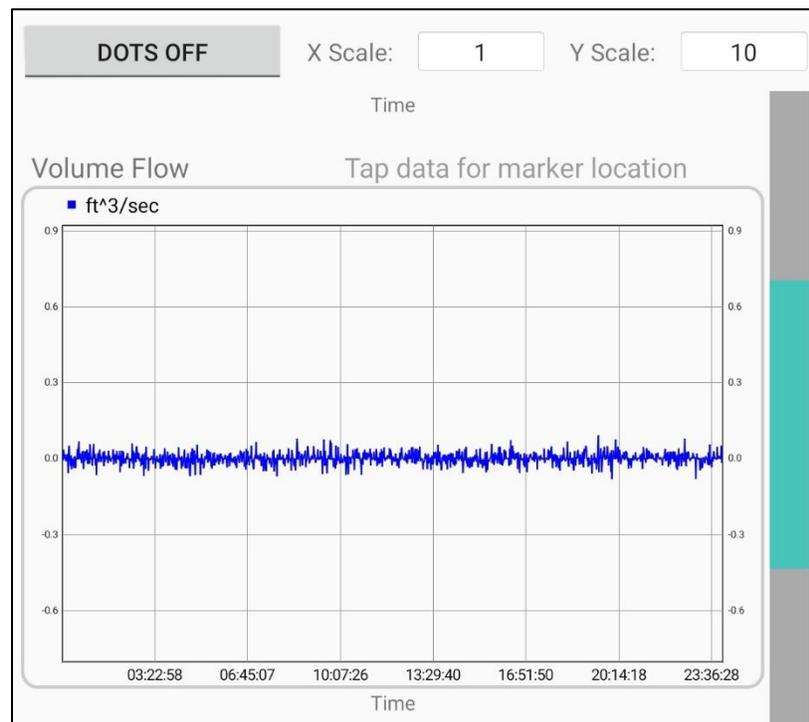

Figure 22: Log Chart Data – Increased Y Scaling
- Figure 22 shows the same data set with the Y scaling expanded to 10 to increase the limits of the Y axis on the chart. It can now be seen that data is nominally at zero with a slight bit of noise above and below.